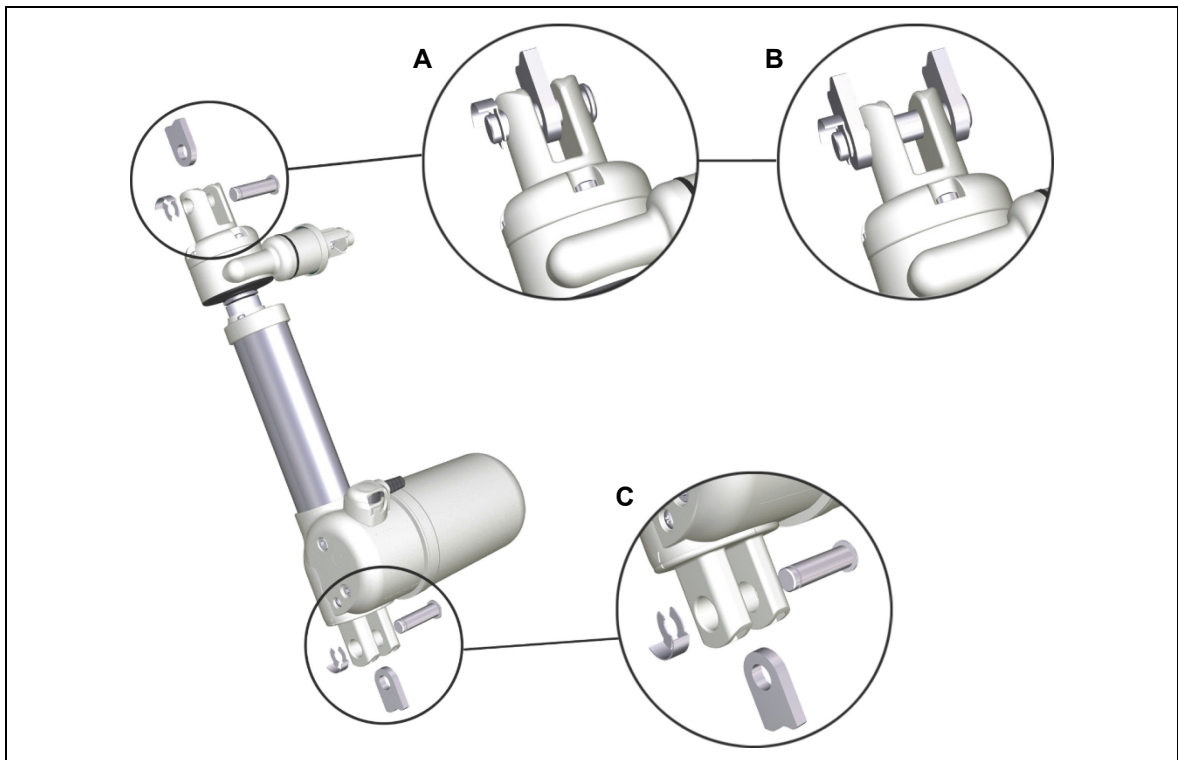

Figure 23 Recommended design of bracket
The brackets should be aligned precisely with each other. We recommend that only one mounting bracket is used on both sides of the drive (as shown by **A** in Figure 23). When two mounting brackets are used, there is a greater risk that they are not properly aligned, resulting in a tilted drive unit.
The drive must be firmly attached, but there should also be a certain degree of movability at the mounting points. The drive must be mounted so that it is protected in all positions against twisting and bending. You can also use brackets with two mounting holes (as shown by **B** in Figure 23), but these must be exactly aligned so that the release force is not increased.
- ▶ We recommend: an oval slot (as shown by **C** in Figure 23) should have at least 2 millimetres of extra room.